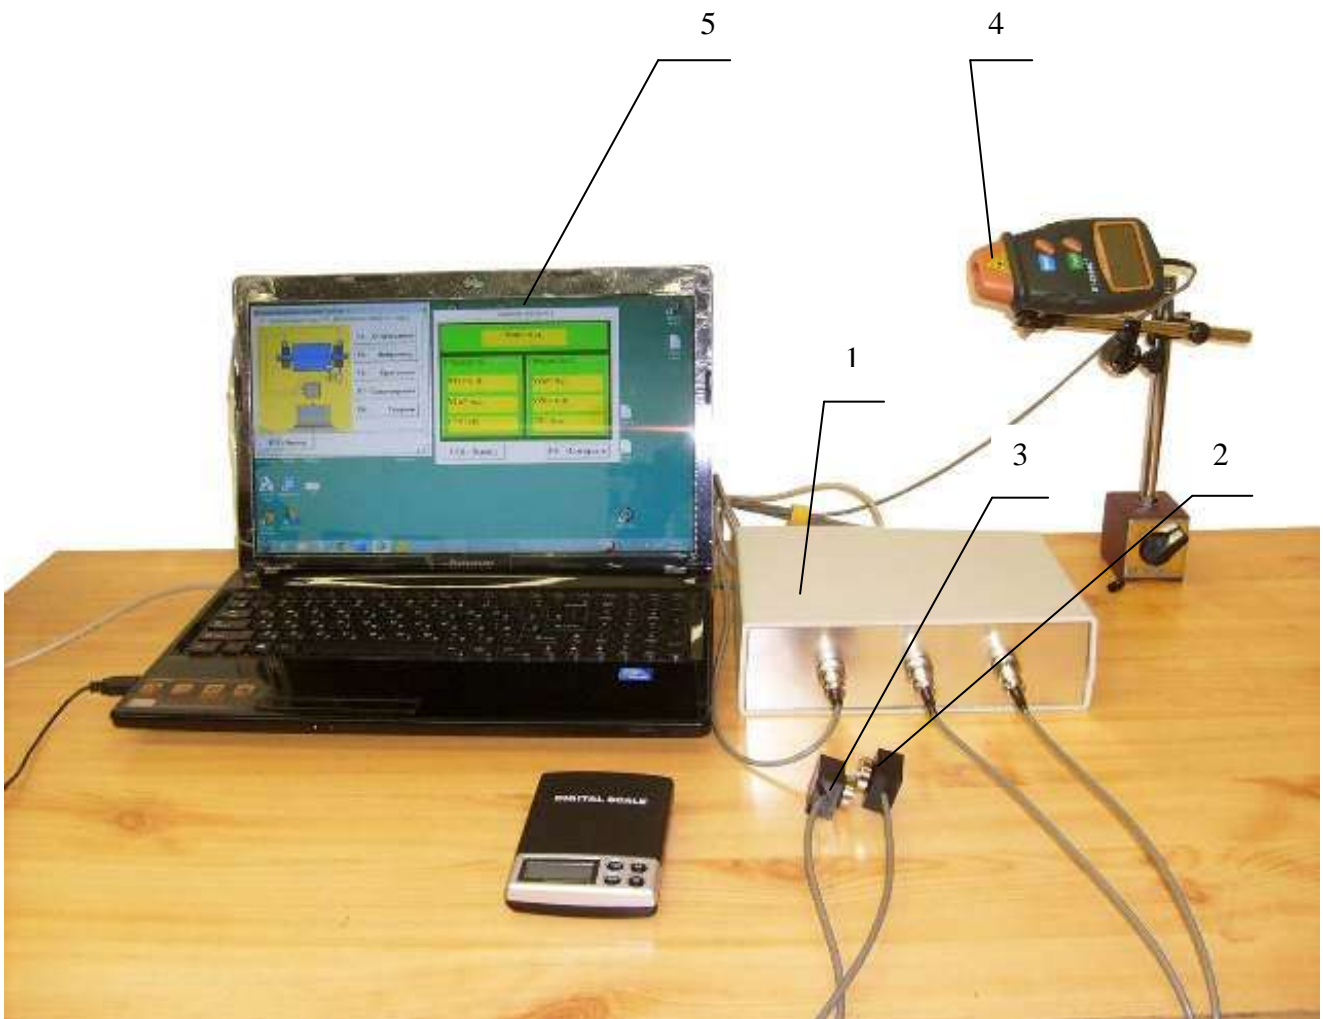

Fig. 4.1. Delivery set of the “BALKOM-1”
4.1. Delivery set of the portable field balancer “BALKOM-1” are shown in fig. 4.1
On a front of the case (see fig. 4.1) the X1 and X2 connectors intended for connection of the vibration sensors respectively to 1 and 2 measuring channels, and the X3 connector used for connection of the phase reference marker.
Actually the procedure of hardware connection of the USB interface unit to the computer is quite trivial: you just need to connect the **USB** connector block (see. Figure 4.1. "Operating Manual") to an available **USB** port on your computer and wait until the device is recognized by the operating system.